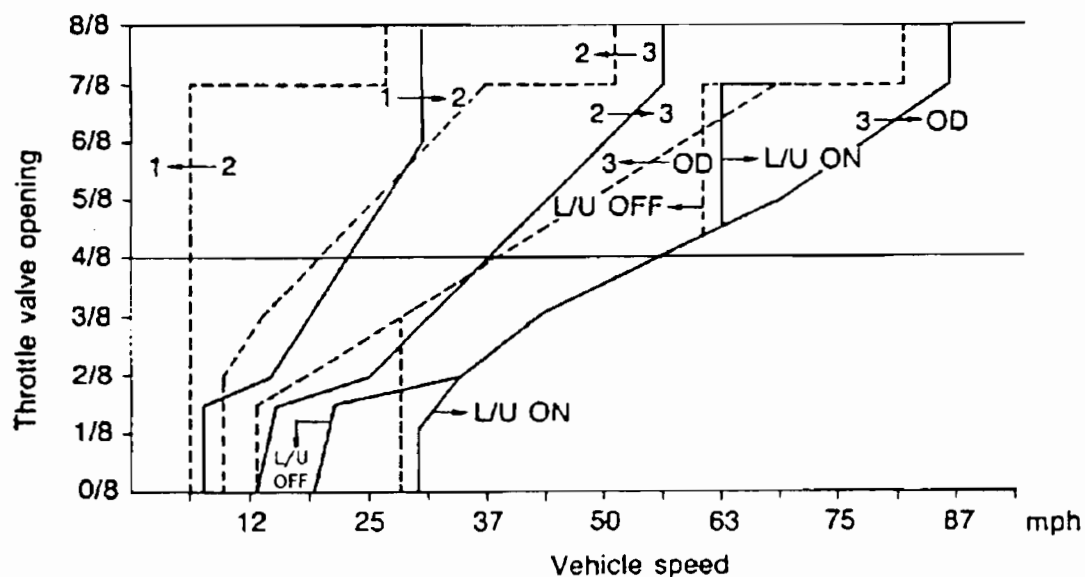

Figure 46
**CAUSE:** The EC-AT Computer strategy allows 1-2 upshifts as early as 7 mph at light throttle when the "normal" mode is selected. The shifts at 1/8 throttle or less occur at 7 mph, 13 mph, and 19 mph. (See Figure 46) It is not until 1/4 throttle or more that the shifts are perceptibly spread out.